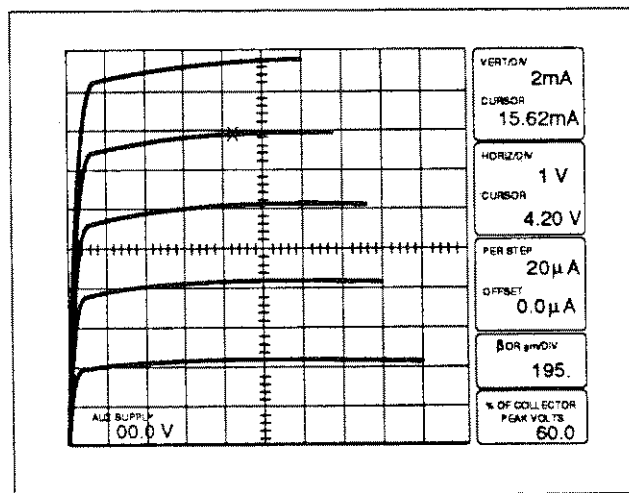

Figure 3-12. Measuring hFE with the Dot cursor.
37. Use the Position Control buttons to move the cursor to the desired point on the characteristic curve (see Figure 3-12). The figure now displayed in the β OR gm/DIV readout is the hFE of the device under test.